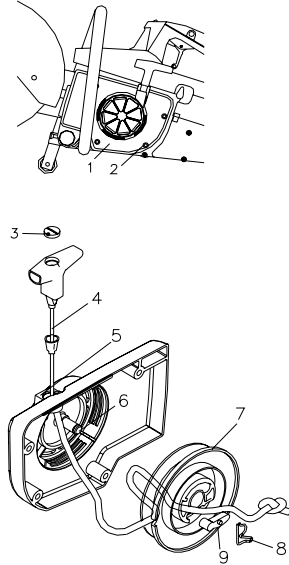

Fig. 13
3. Replacing starter rope (Ref. Fig. 13):
4. Replacing pawl (Ref. Fig. 13):